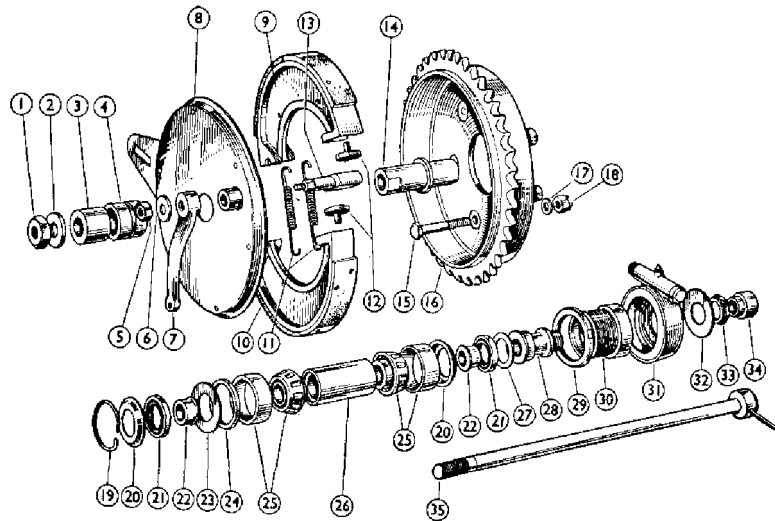

FIG. 76
**Dismantling rear wheel bearing** (Fig. 76). Before removing the rear wheel, release the speedo drive fixing nut (16), disconnect speedo cable and take out the wheel.